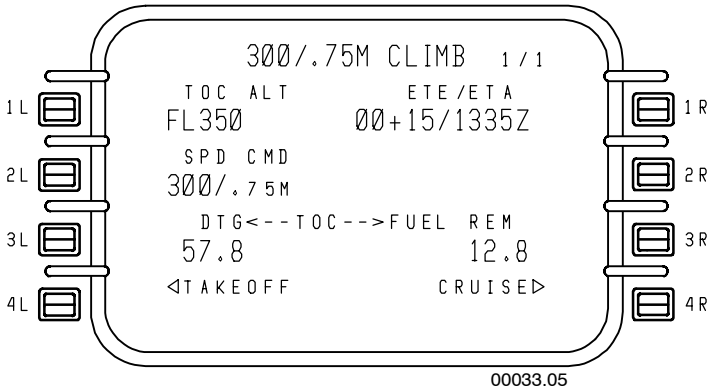

Figure 5-31
- **CLIMB 1/1** – Figure 5-31 displays the following data: